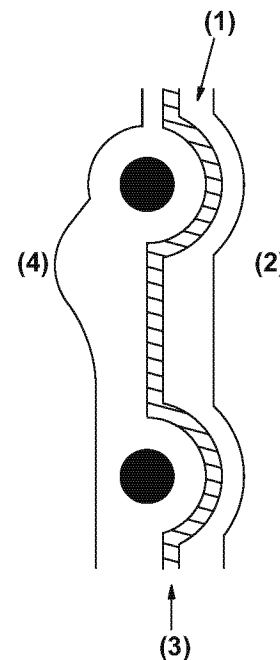

Figure 5-1
4. If a gasket is used, do not use sealant TB1212 (Figure 5-1).